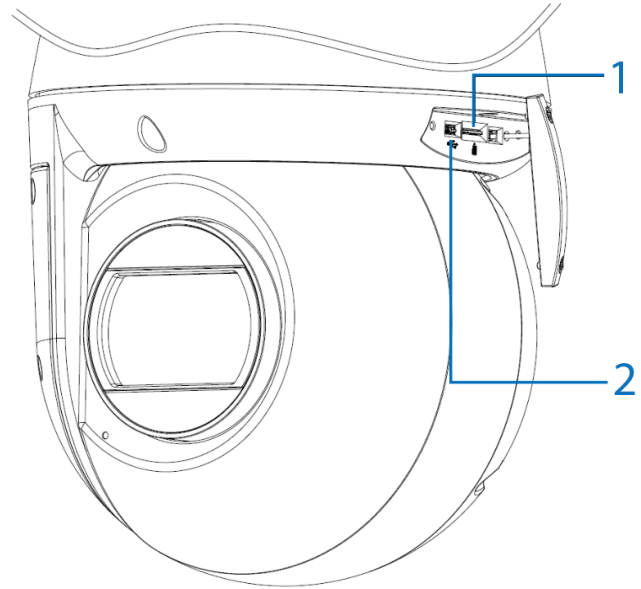

Figure 4
2. Carefully pull open the cover to access the SD card slot (1) (Figure 4) and insert (or remove) the micro SD card into (or from) the camera.
Note: The USB cable connection slot (2) (Figure 4) for Wi-Fi configuration is also located under the micro SD card cover. The Wi-Fi option allows wireless configuration of the camera at the point of install in conjunction with the Illustra Tools app (Illustra Wi-Fi dongle required).